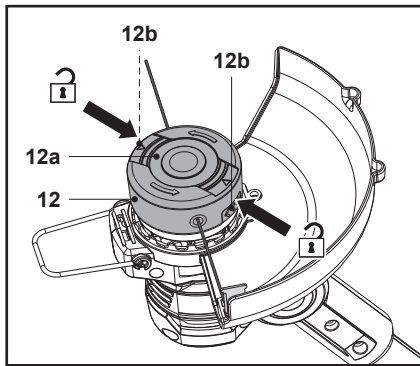

Fig. 23
2. Hold the trimmer head (12) steady with one hand. Press the release latches (12b) on both sides, then lift the cover (12a) and remove it (Fig. 23).